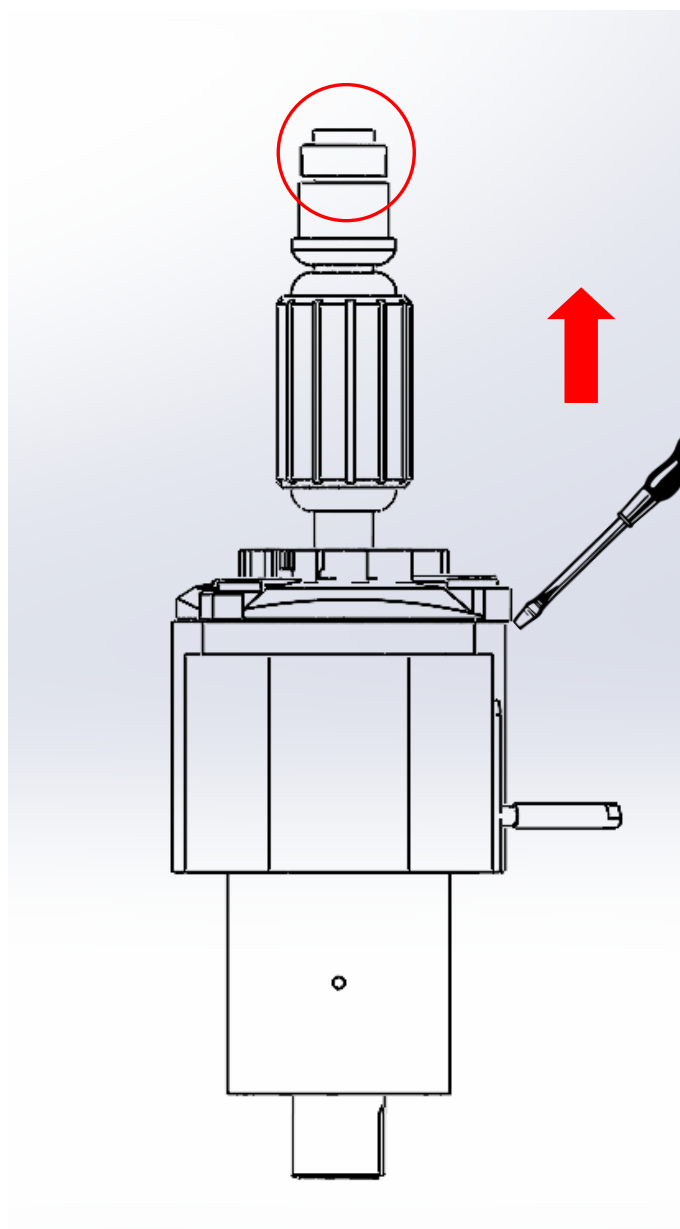

Figure 1.13
- 1.5.3 Once the two parts are separated, place the gearbox part vertically as in figure 1.13, to prevent grease from escaping;
- 1.5.4 Using a screwdriver, pry and remove the piece in the direction of the red arrow (see figure 1.13);
- 1.5.5 Once the armature has been pulled, pay attention to the magnetic ring, highlighted in the circle in figure 1.13;